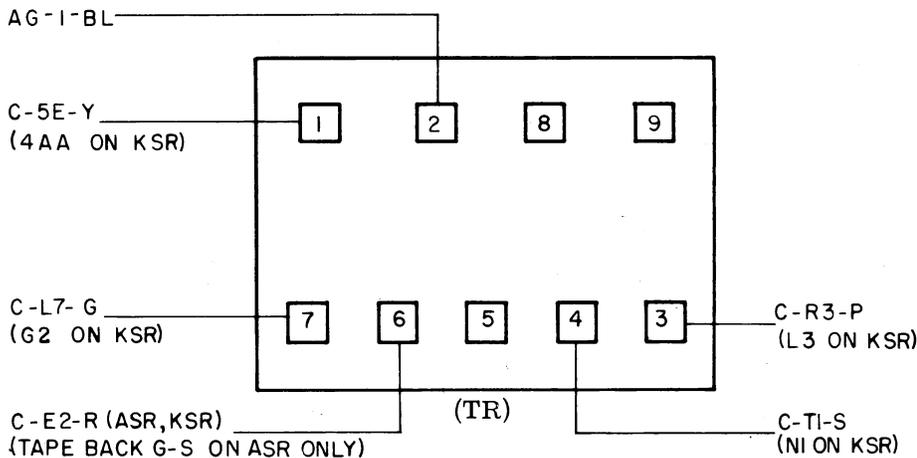

Figure 2 - TP181879 Transformer Connections (10-14-48 v ac)
- (a) Mount transformer TP181879 loosely to mounting plate TP336495 with four (4) screws with lockwashers TP181241 and four (4) flat washers TP125015.
- (c) Connect transformer cable TP336498 to terminals (Figure 2).